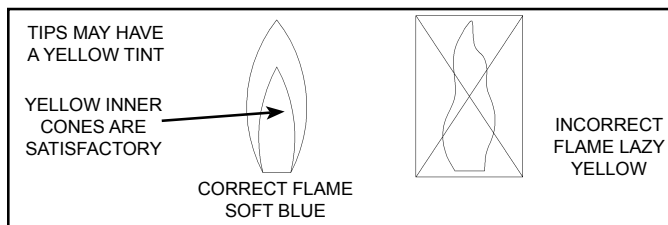
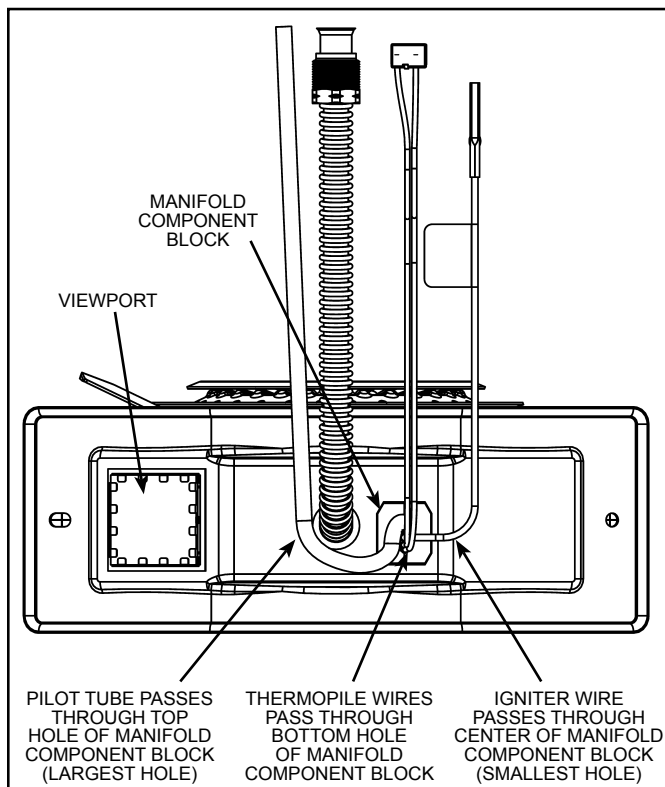

Figure 32
Figure 38
At least once a year a visual inspection should be made of the main burner and the pilot assembly for proper flame characteristics. This can be done by removing the Outer Door and viewing the main burner operation through the Viewport on the Inner Door (see Figure 38). The main burner should provide complete combustion of gas, ignite rapidly, give reasonably quiet operation, and cause no excessive flame lifting from the burner ports. If the proper flame characteristics are not evident (see Figure 32), make sure that the flow of combustion and ventilation air is not blocked in the venting system. You should also check for sooting. Soot is not normal and will impair proper combustion.
Inspect the burner flames through the viewport and compare them to the drawings in Figure 32. A properly operating burner should produce a soft blue flame. Blue tips with yellow inner cones are satisfactory. The tips of the flame may have a slight yellow tint. The flame should not be all yellow or have a sharp blue-orange color. Contaminated air may cause an orange colored flame. Contact a qualified service technician if the flame is not satisfactory.
9. Reinstall the manifold component block in the manifold door. Ensure that the pilot tube and wires are positioned as shown in Figure 38.